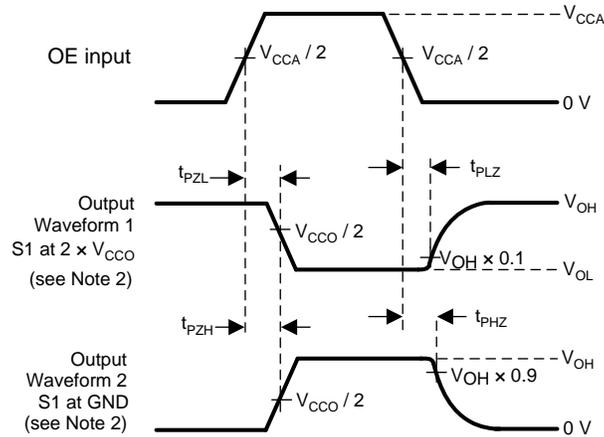

图 9. Enable and Disable Times
2. Waveform 1 in 图 9 is for an output with internal such that the output is high, except when OE is high (see 图 6). Waveform 2 in 图 9 is for an output with conditions such that the output is low, except when OE is high.